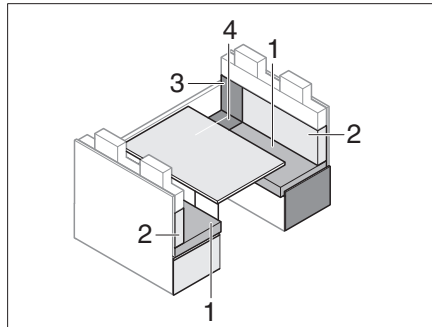

Fig. 196 Prior to conversion
- Remove the back cushion (Fig. 196,2) and lay it to the side.